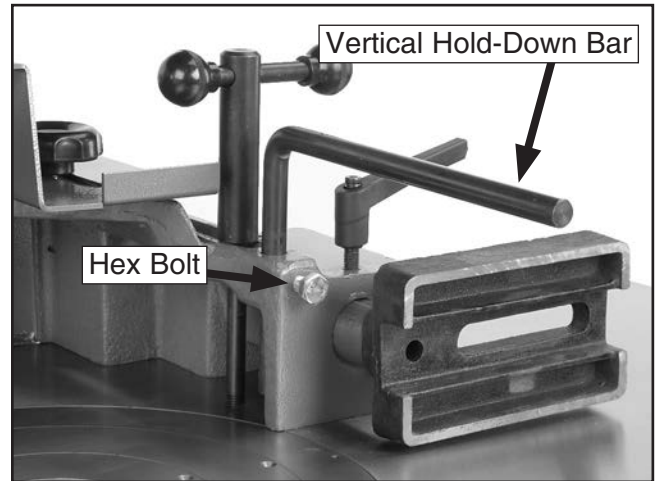

Figure 11. Vertical hold-down bar installed.
1. Insert the short end of the vertical hold-down bars into the fence mount and secure with the M10-1.5 x 30 hex bolts (see **Figure 11**).